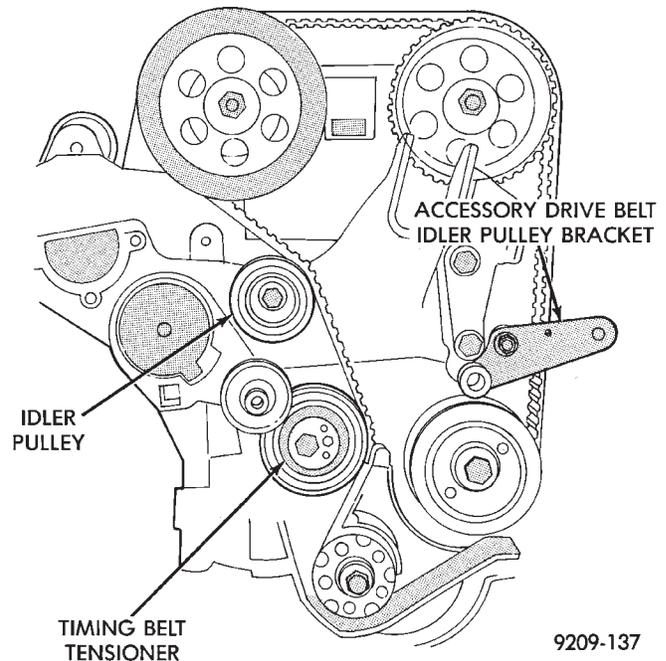

Fig. 6 Remove Timing Belt
(3) Raise vehicle on a hoist. Remove lower accessory drive belt idler pulley bracket assembly (Fig. 6).
(4) Loosen timing belt tensioner, remove timing belt and idler pulley (Fig. 6).
(5) Lower vehicle